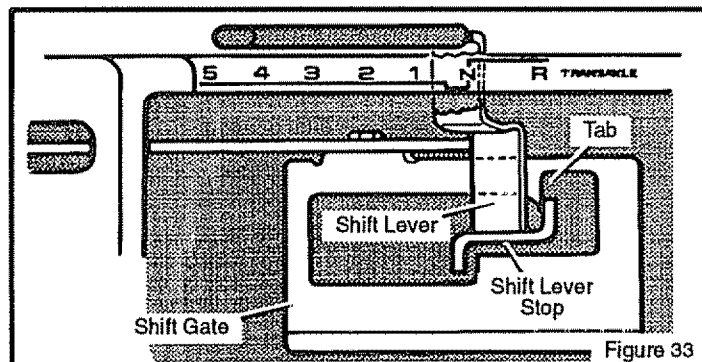

Figure 33
3. To move the **shift lever** to neutral (N) from a forward gear, pull the **shift lever** back and then move to the left until the **shift lever** goes past the **tab** (Figure 33).
4. To move the **shift lever** to a forward gear from neutral (N), pull the **shift lever** to the left and then push the **shift lever** forward.